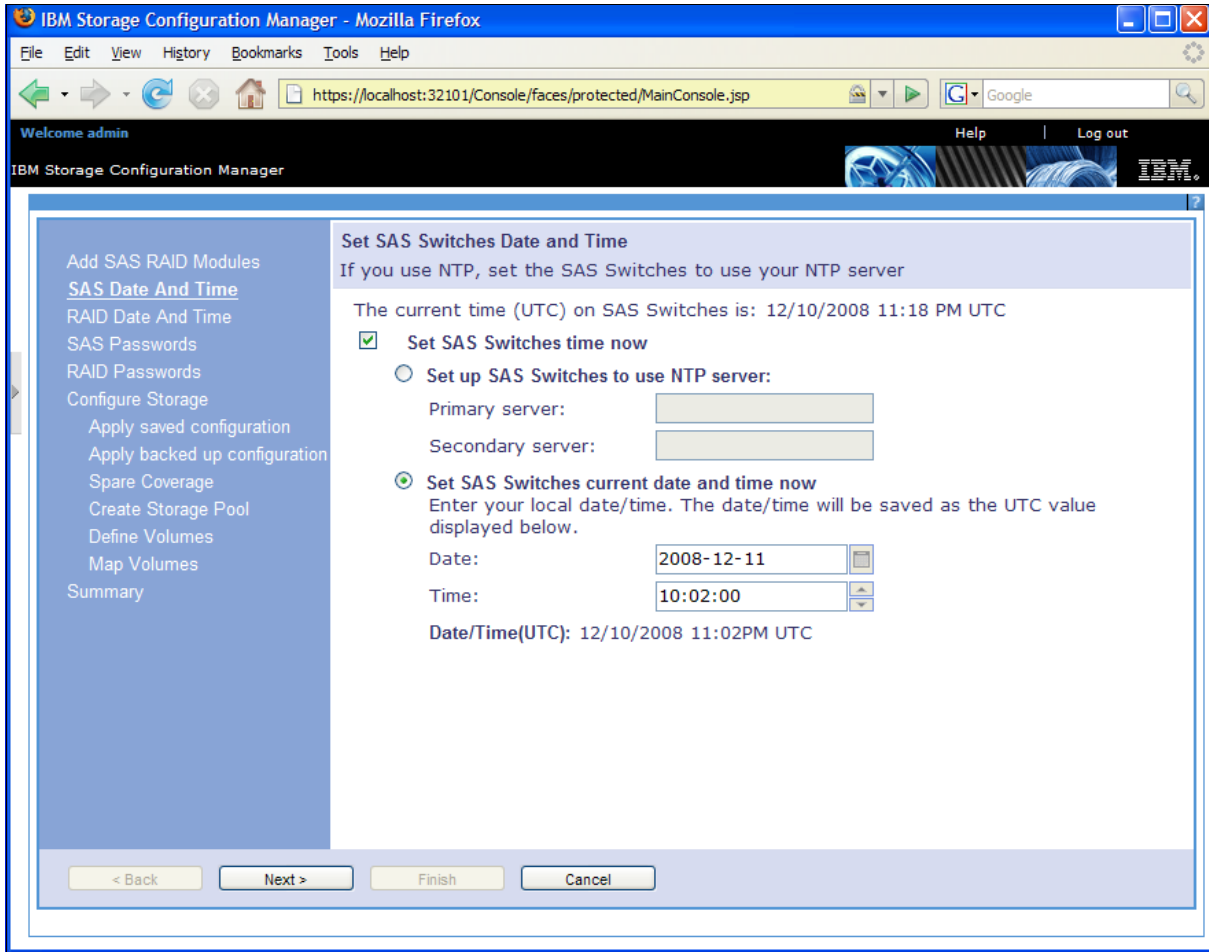

Figure 2-34 Setting SAS switch date and time
3. Set the SAS Switch date and time (Figure 2-34). Use either the automatic procedure (by connecting to an NTP time server) or specify the date and time manually. Click **Next**.